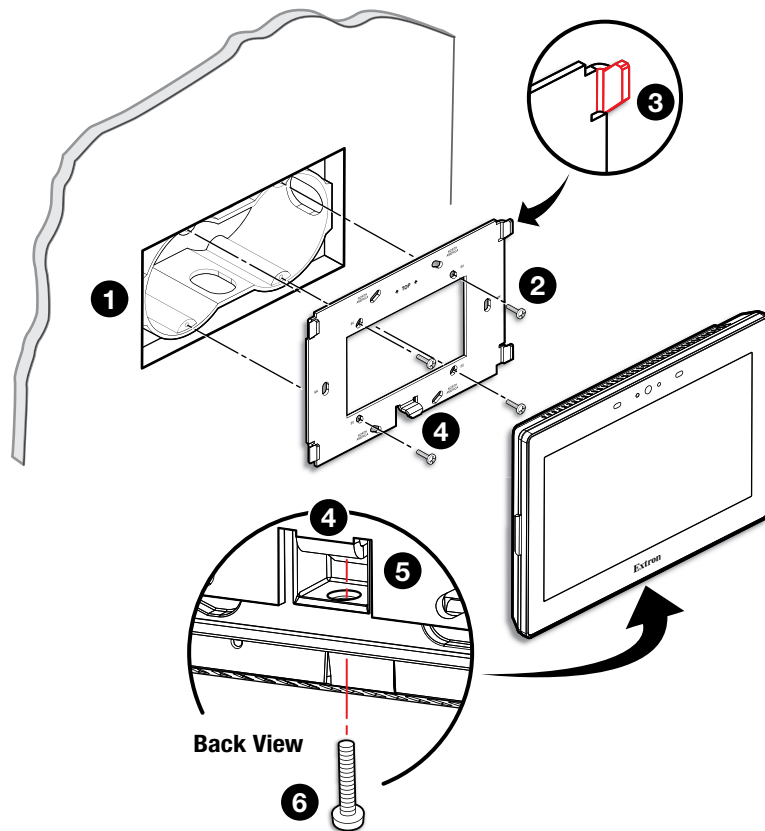

Figure 23. Mounting the ZRTP Pro 725M to a Wall Box (left) and Mounting Plate (right)
Figure 23 shows how to mount the ZRTP Pro 725M. Mounting the ZRTP Pro 1025M is very similar.
1. Install a junction box or wall box (see figure 23, ❶), following the instructions provided by the manufacturer.
4. Position the touch panel so that the mounting slots in the rear of the touchpanel align with the hooks on the mounting plate. The ZRTP Pro 725M and 1025M mounting plate has four hooks (see figure 23, ❸), one in each corner, top and bottom.
6. Move the touchpanel down so that touchpanel is seated securely on the hooks and the tongue at the bottom of the mounting plate (❹) is sitting in a groove in the bottom of the touchpanel (see inset, ❺).
7. Tighten the mounting screw (❻) to fasten the touchpanel to the mounting plate.
3. Cut a hole in the wall or furniture (see figure 23, ❶, on page 21).